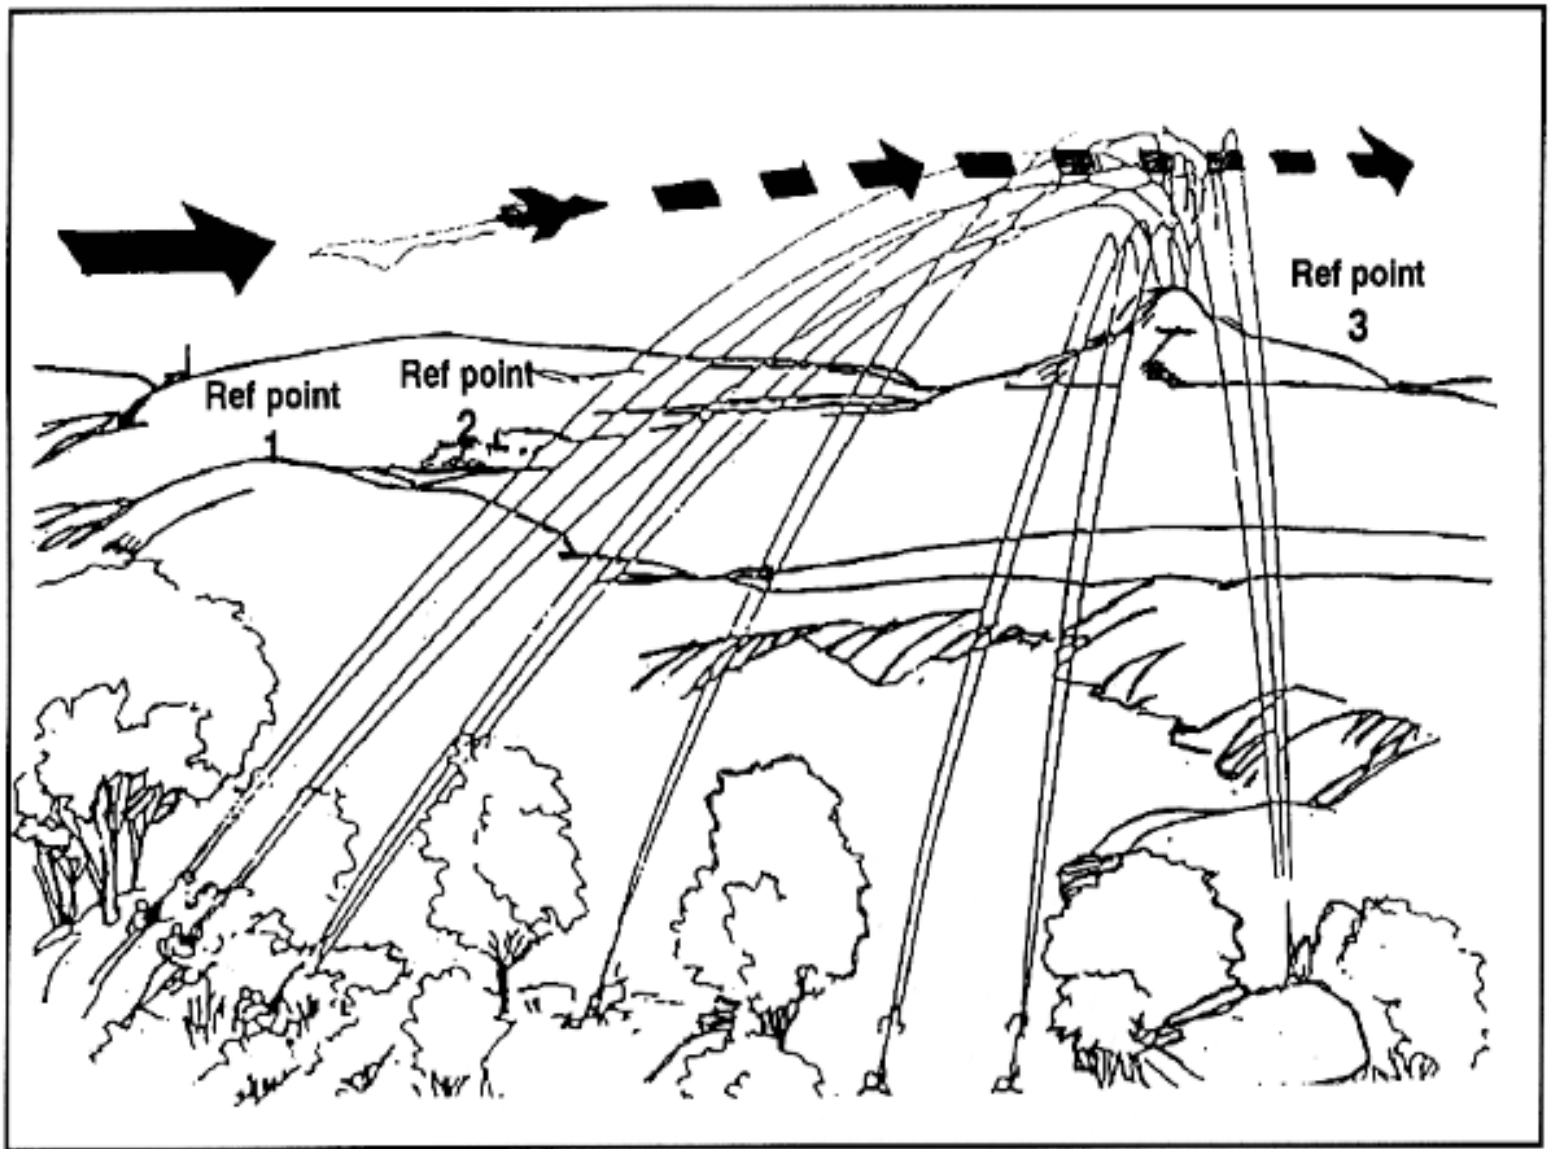

Figure C-2. Reference-point technique.
(2) The next technique is the reference-point technique (Figure C-2). The unit leader designates terrain features as reference points. Upon spotting enemy aircraft, the leader commands, ENEMY AIR, REFERENCE POINT 1. At this time, the M249 automatic rifleman points his weapon at reference point 1, elevates it about 45 degrees above the ground, and fires on command. Once he sights the target, he can make minor adjustments to align his fire on the target.
Figure C-2. Reference-point technique.